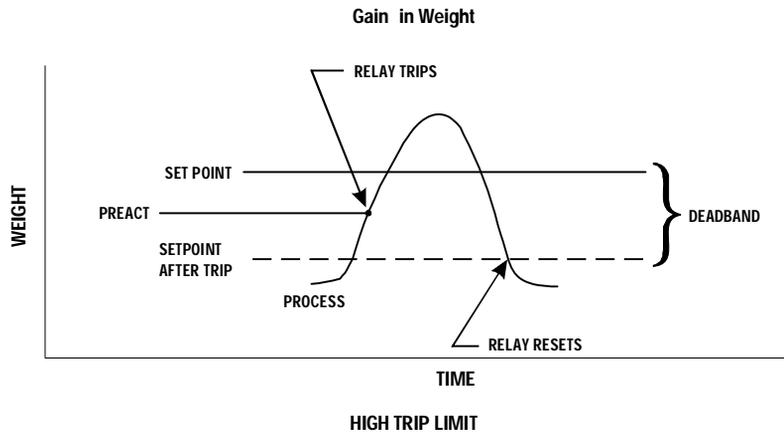

FIG. 375 GAIN IN WEIGHT/HIGH TRIP LIMIT
- For example: If a set point value was 1000 pounds and the dead band was set to 5 pounds, the relay would close at 1000 pounds but not open until the weight dropped to 995 pounds. You need to select the Type: Loss in Weight. This would be used if a set point is a high trip limit. Selecting the Type: Gain in Weight and dead band would be used for a low trip limit. Examples are show for Low and High Trip Limits. (See Figs. 375 & 376)